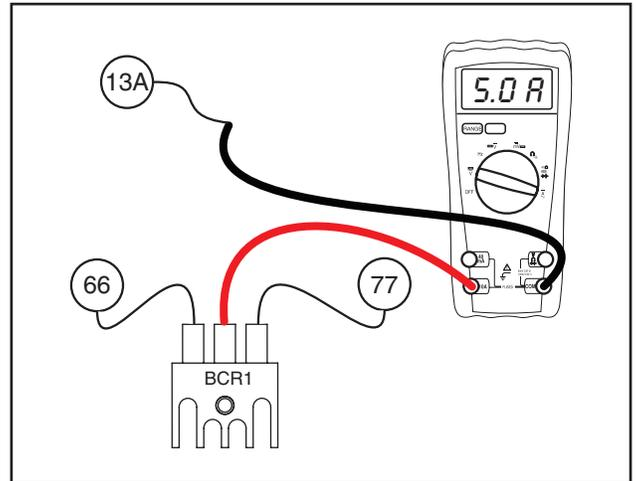

Figure 6-24. – Testing BCR1
- Set a voltmeter to measure DC Amperage. Connect the positive (+) test lead to the center terminal of the Battery Charge Rectifier. Connect the negative (-) test lead to Wire 13A previously disconnected. See Figure 6-24.